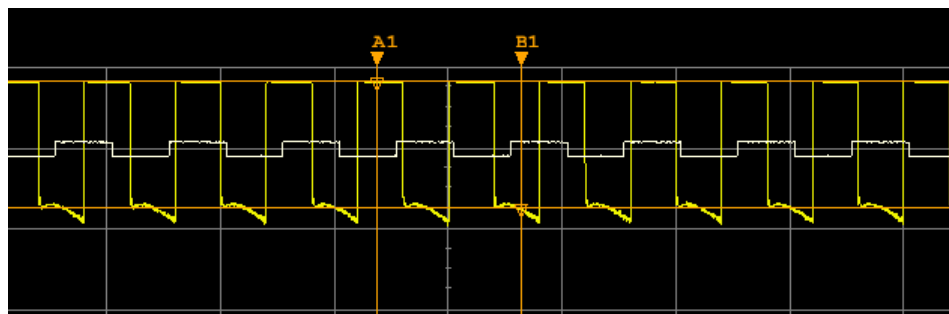

Figure 2-55 Resultant trace waveform of the math operation
- 7 An example of a resultant trace waveform is displayed as shown in Figure 2-55.